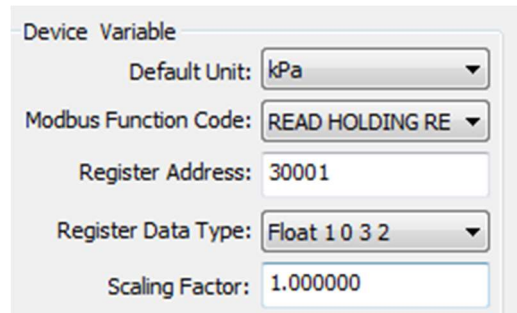

Figure 5.67 Scale Factor Selection
1. Select "Detailed Design"-"Sensor"-> the drop-down box corresponding to "zoom factor", as shown in Figure 5.67